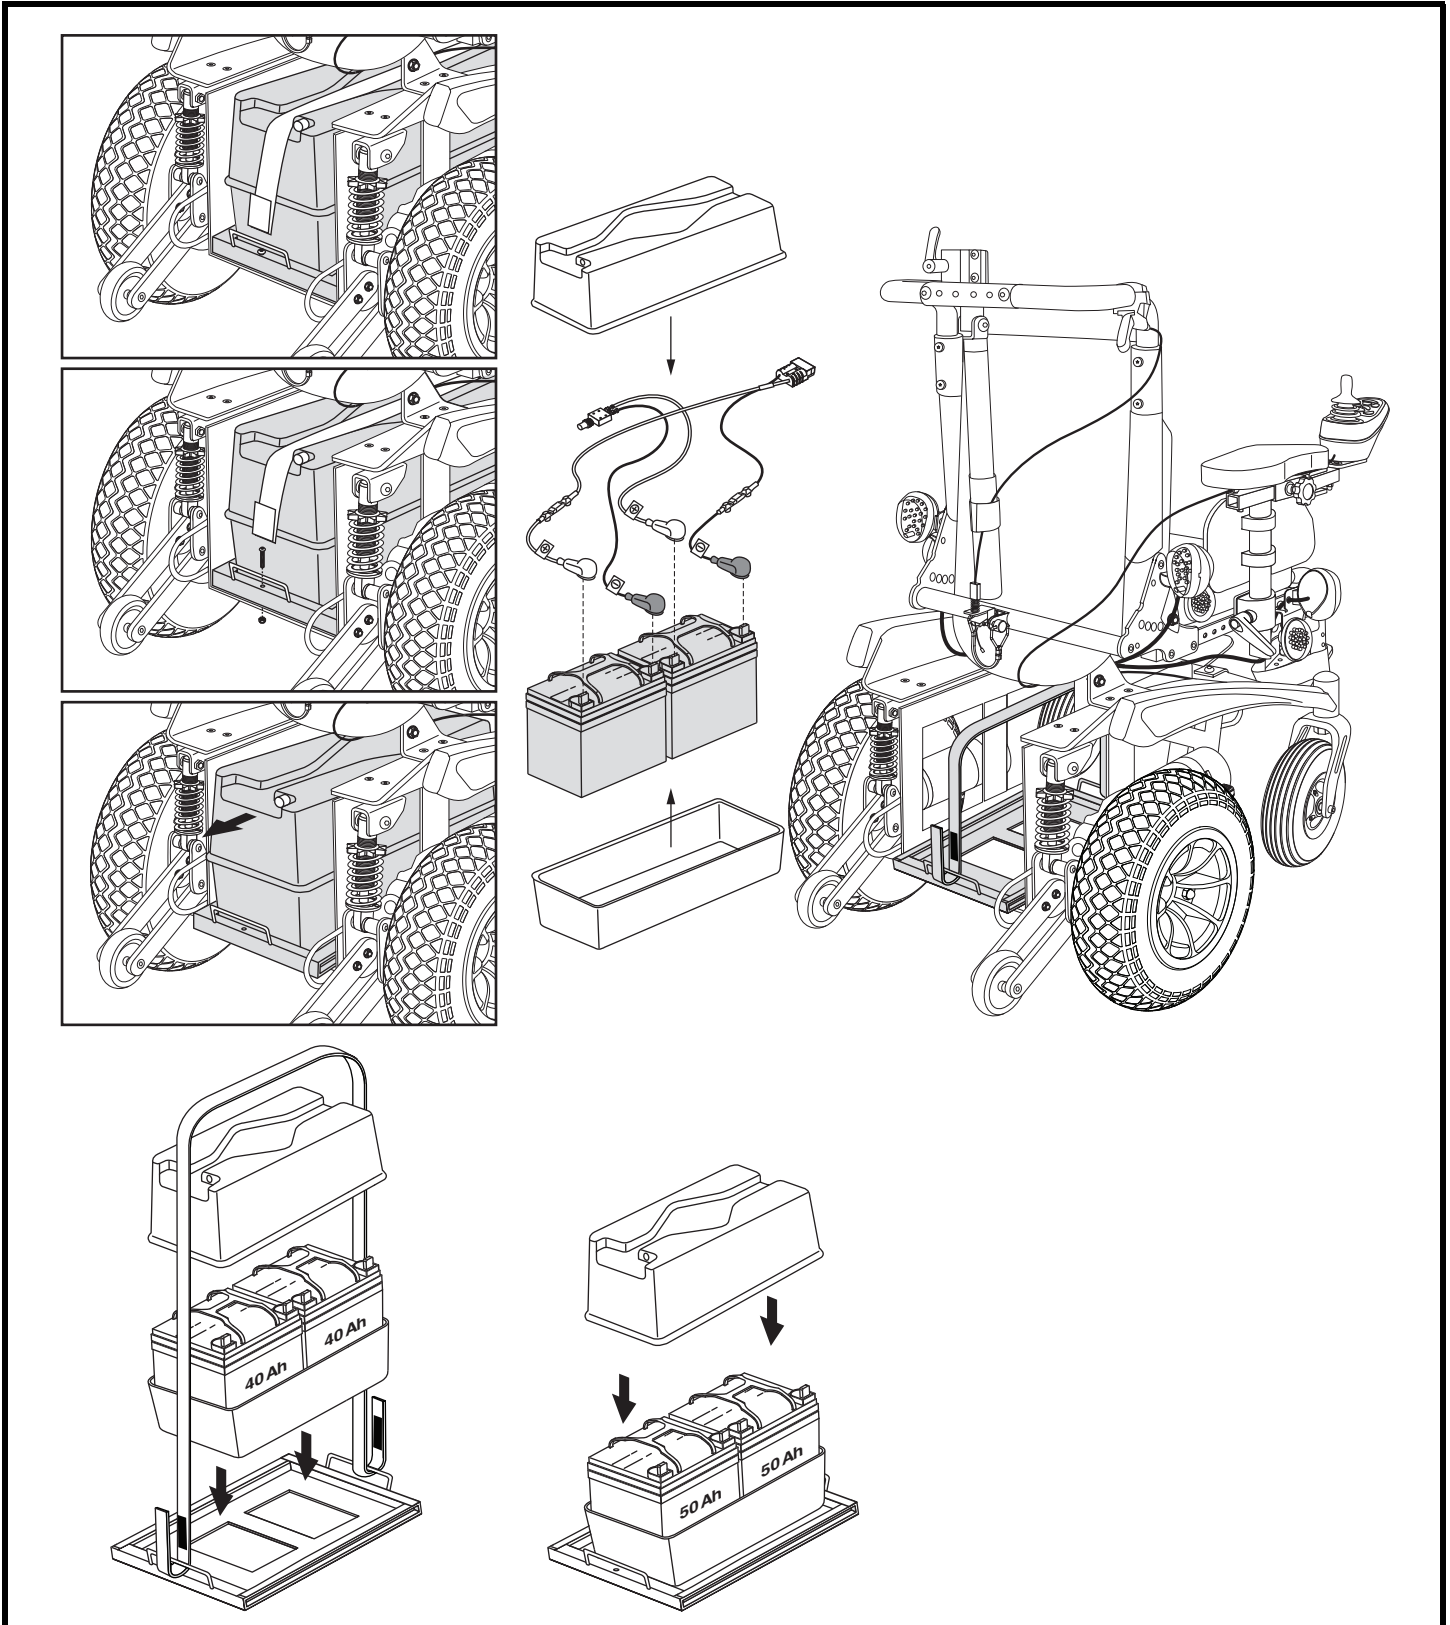

Figure 31. Battery Replacement
A battery wiring diagram is printed on a decal located on the battery door. See figure 31. Refer to the specifications table for correct battery specifications.
4. Slide the battery tray back. **See figure 31.**
8. Install the new batteries into the battery box. **See figure 31.**
11. Slide the battery tray back into place and reinstall the battery securement hardware. **See figure 31.**